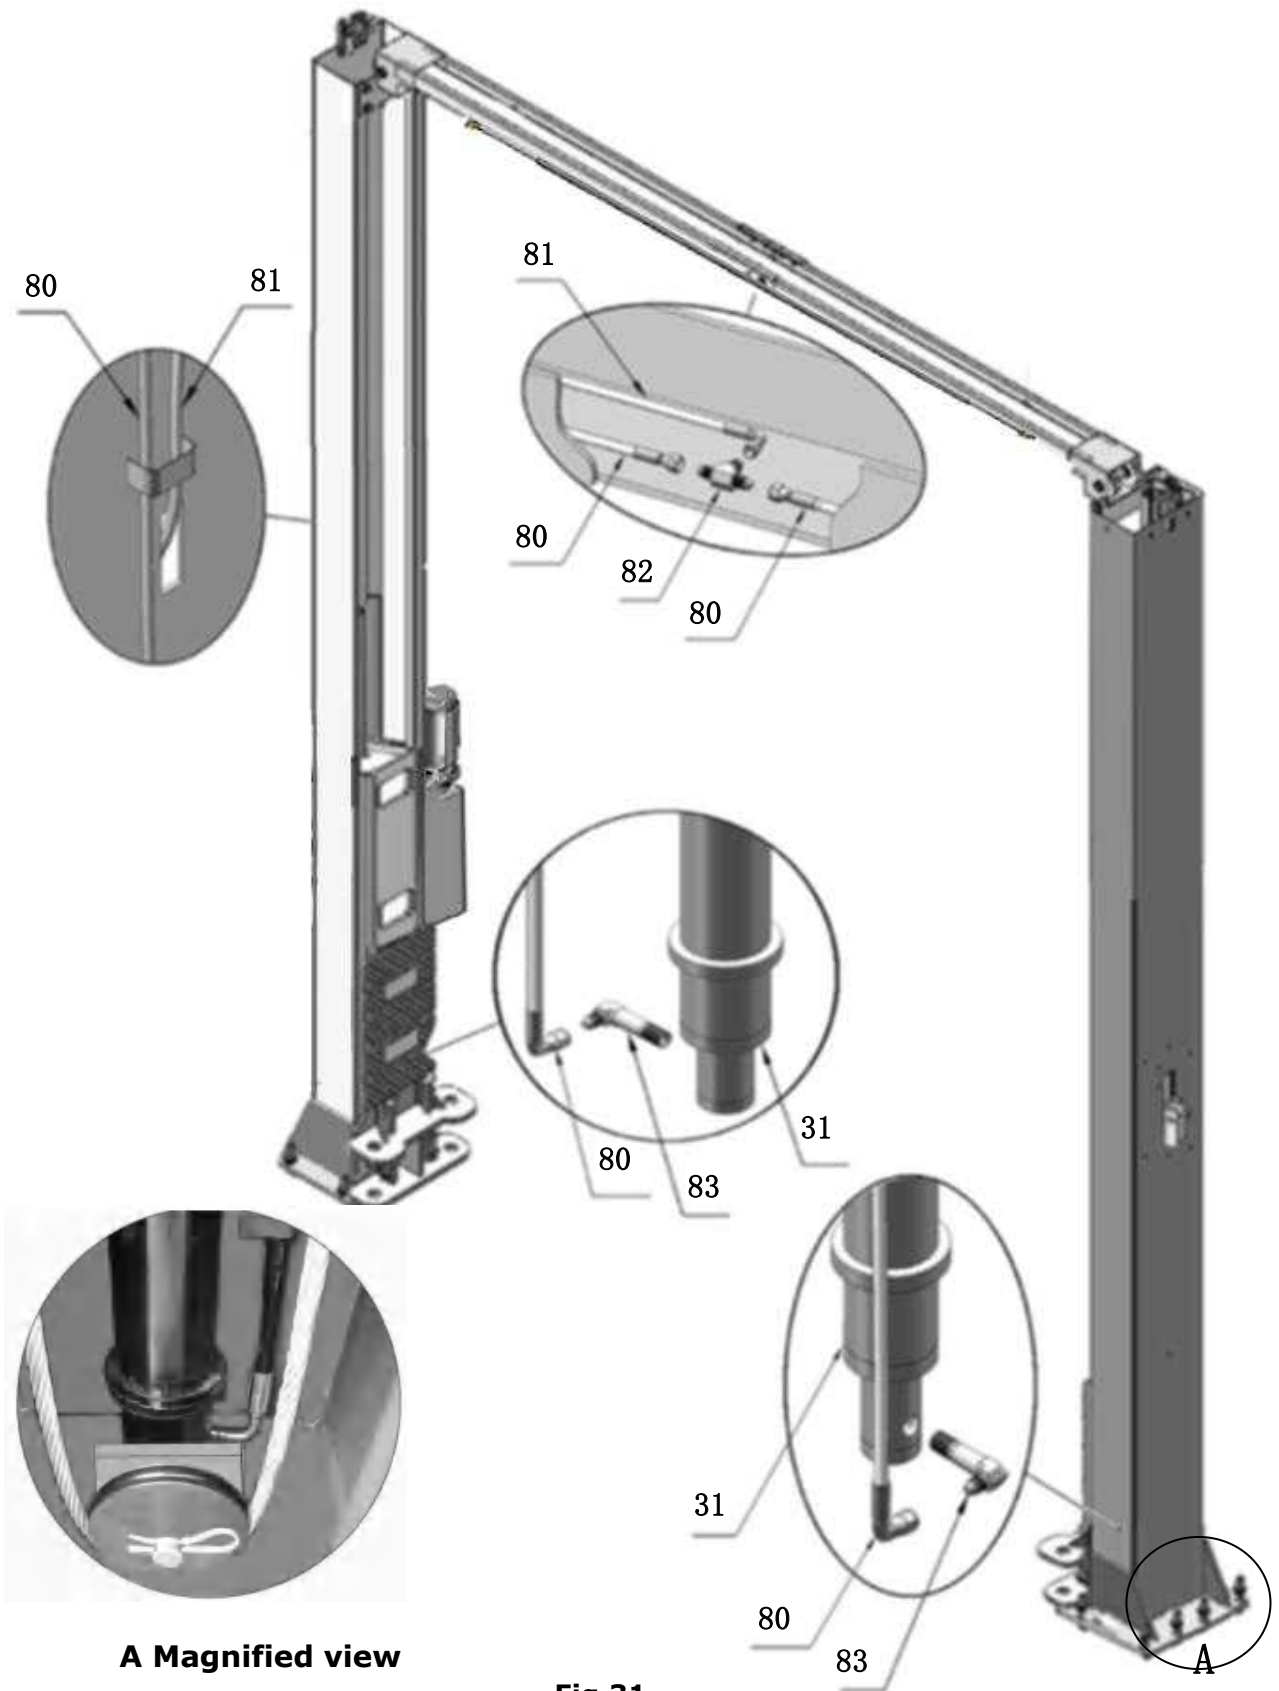

Fig.31
1. OHX-10 oil-line connecting diagram(See Fig.31).